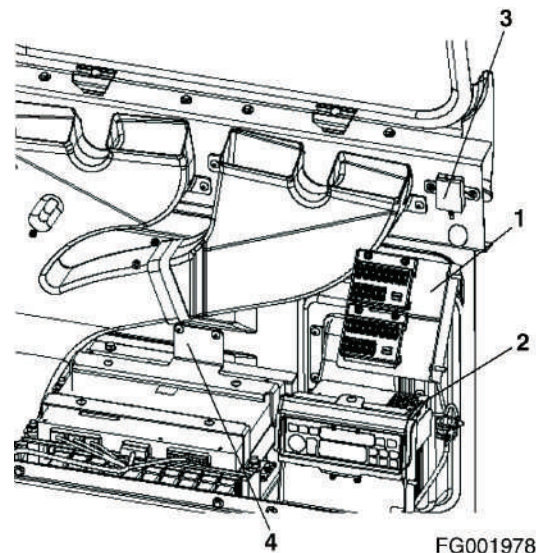

Figure 4
16. Remove fuse box bracket (1, Figure 4) from left side wall without disassembly harness connector.
18. Remove cassette bracket (2, Figure 4) and disconnet antenna and speaker wire.
19. Remove electric box (4, Figure 4) without disassembly harness connectors.